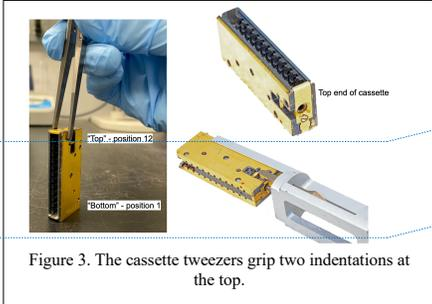

Figure 3. The cassette tweezers grip two indentations at the top.
- 4.3.3. Open the enclosure door and locate the **autoloader docking position** (Figure 3).
- 4.4.2. Using the cassette tweezers, securely grasp cassette at the top position (fig 3).
- 4.4.2.1. There are two indentations at the top of cassette for the cassette tweezers (fig. 3).